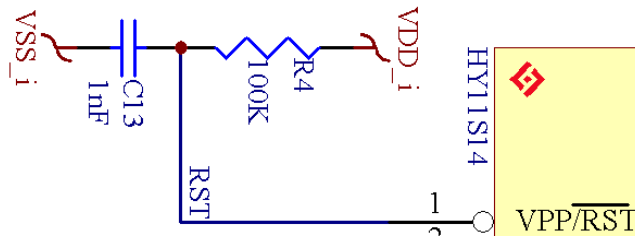

Figure 5
- ◆ RST Circuit : Is demonstrated as in Figure 5.